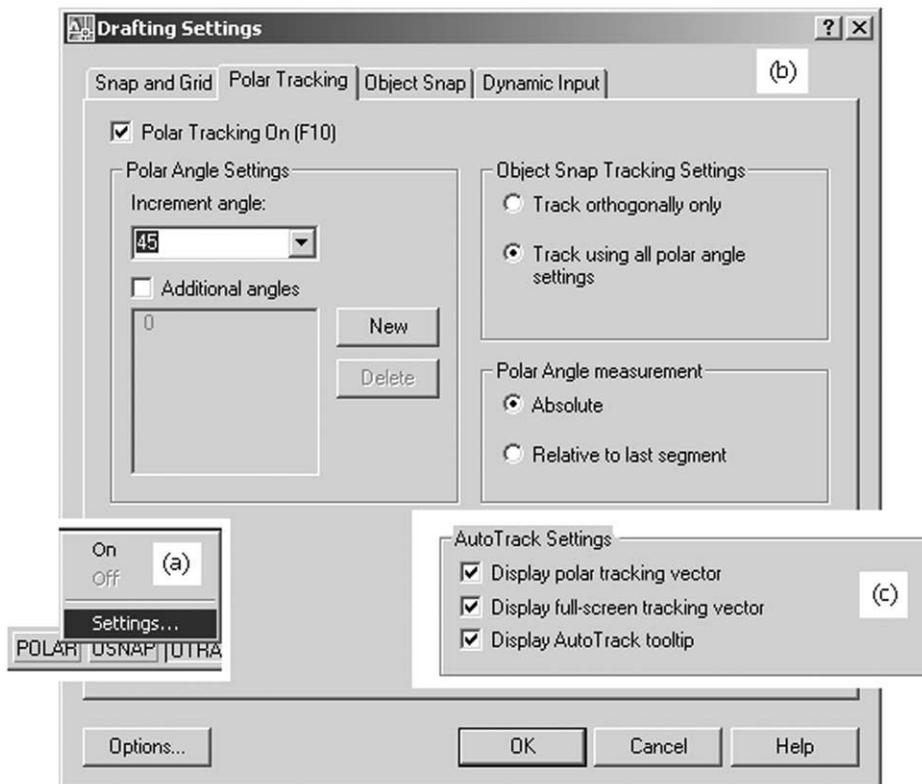

Figure 4.3 (a) Activating the Drafting Settings dialogue box; (b) the polar Tracking tab active and (c) the Auto Track Settings from the Options selection.
- 4 Right click on **POLAR** in the **Status bar**, pick Settings as Figure 4.3(a) and:
e) dialogue box as Figure 4.3(b)
c) Display Auto-Track tooltip: active – Figure 4.3(c)